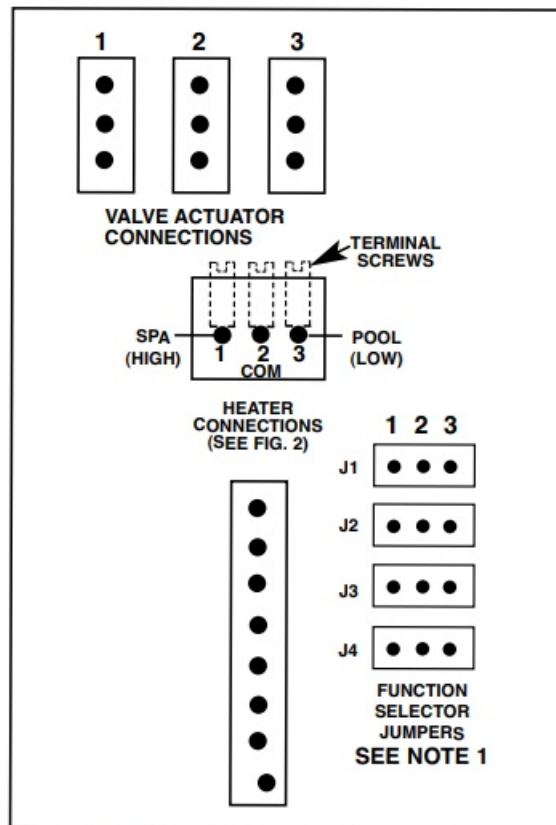

Figure 3 Low Voltage Connections
shown on page 4, figure 3.
7. Set function selector jumpers (refer to Fig. 3 on page 4).
Depending on the Jumper settings (see Fig. 3), the remote switching device will activate/deactivate the Pool-To-Spa function and reverse the state of the two relays.